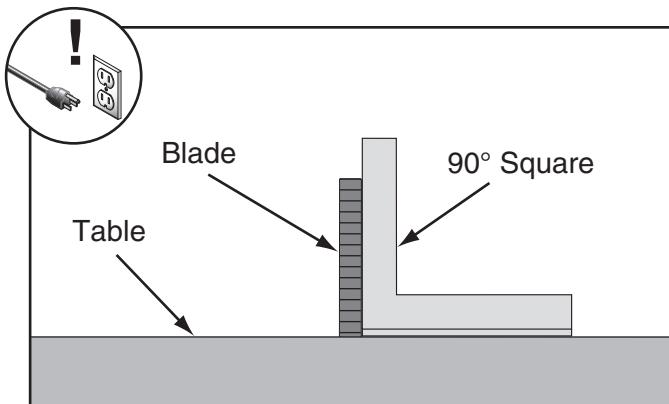

Figure 111. Checking blade at 90°.
3. Place a 90° square against table and blade so it contacts blade evenly from bottom to top, as shown in **Figure 111**. Make sure a blade tooth does not obstruct placement of square.